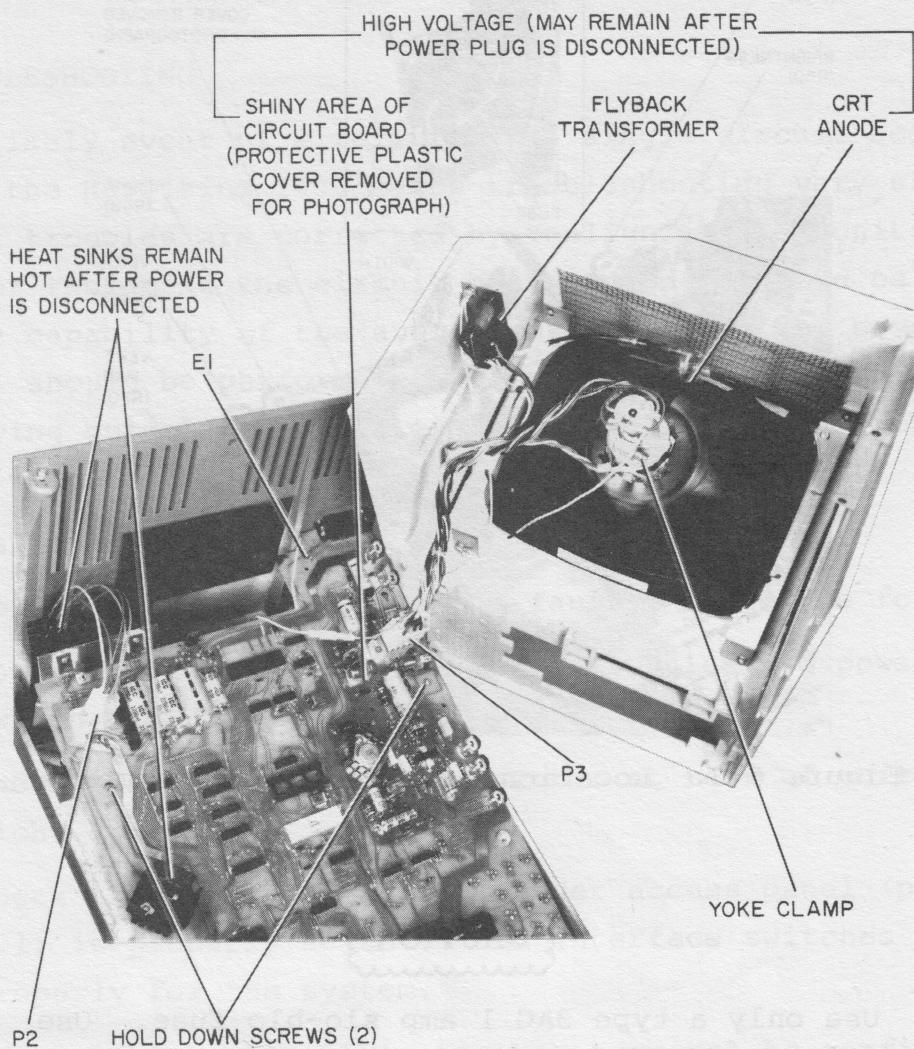

Figure 6-2. 1400 Terminal, Open, Ready for Servicing
- d. Carefully lift the cover and cathode-ray tube (crt) off the base and immediately to the right. There is enough slack in the wiring to lay the cover on its side alongside the base as shown in figure 6-2. ~~The terminal may be turned on and operated in this condition for alignment or troubleshooting purposes.~~ The terminal cannot be turned on with the cover removed.
- (1) Note the direction and amount of tilt.
- (2) Disconnect the power plug and open the unit as described in paragraph 6.2.
- (3) Loosen the screw securing the clamp on the neck of the tube (figure 6-2).
- (4) Rotate the yoke in the direction and distance necessary to correct the tilt noted in step (1) and tighten the screws. (The display will rotate the same distance and direction as the yoke is rotated).
- (5) *Place cover on the base, set power switch to on, and check display.*